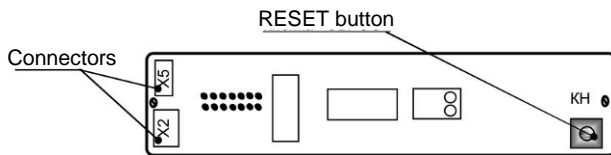

Fig. 10. Indication board
- In order to reset the meter, push RESET button (Fig. 10) on control panel indication board installed on recirculator lid.
- Disengage three-pin connector X2 and two-pin connector X5 on indication board (see Fig. 10).